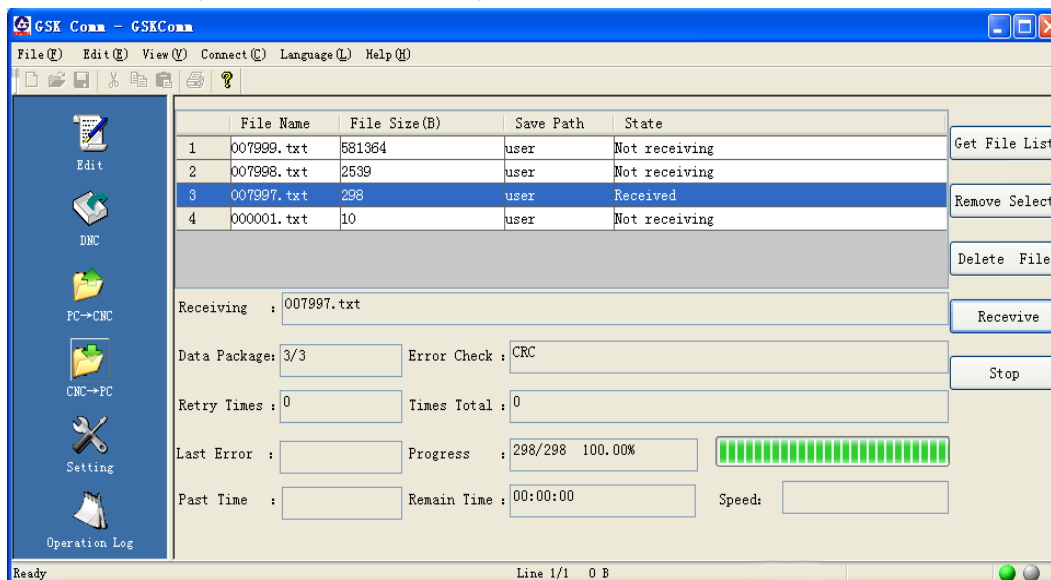

Fig. 11-2-2-3
5. After the file receiving, the status bar of the dialog displays “Received”, which is shown in Fig. 11-2-2-4.